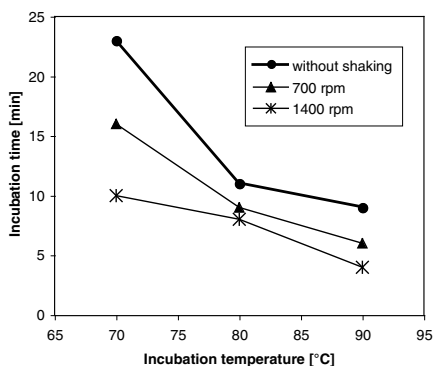

Figure 2: Removal of residual ethanol from the elution fraction by heat treatment.
- d) The incubation of the eluate at higher temperatures may be adjusted according to Figure 2. The incubation time- and temperature conditions shown will reduce an elution volume of 20 µL to about 12–14 µL and will effectively remove traces of ethanol as described above.